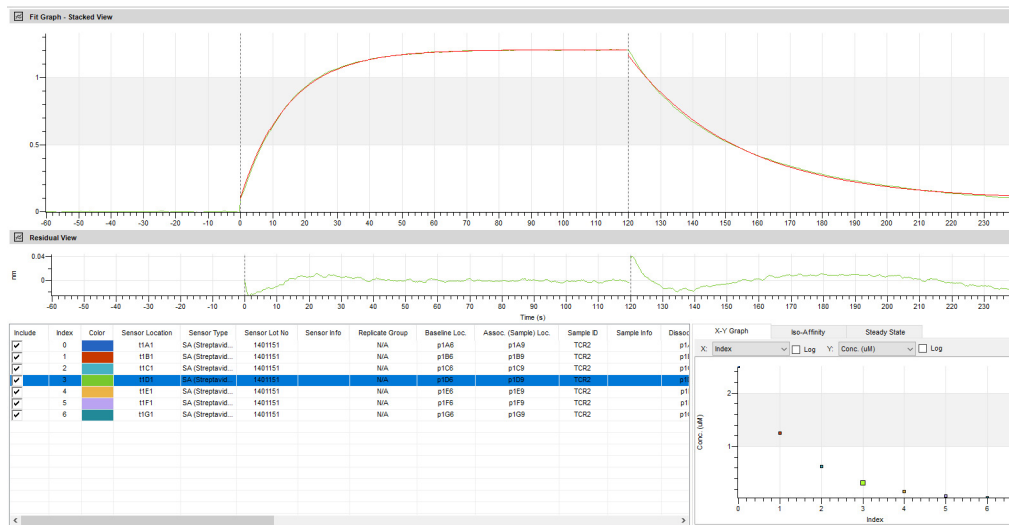

Figure 5-9: Viewing Individual Graphs
- To view one graph, just click its row in the Analysis Results table (Figure 5-9).